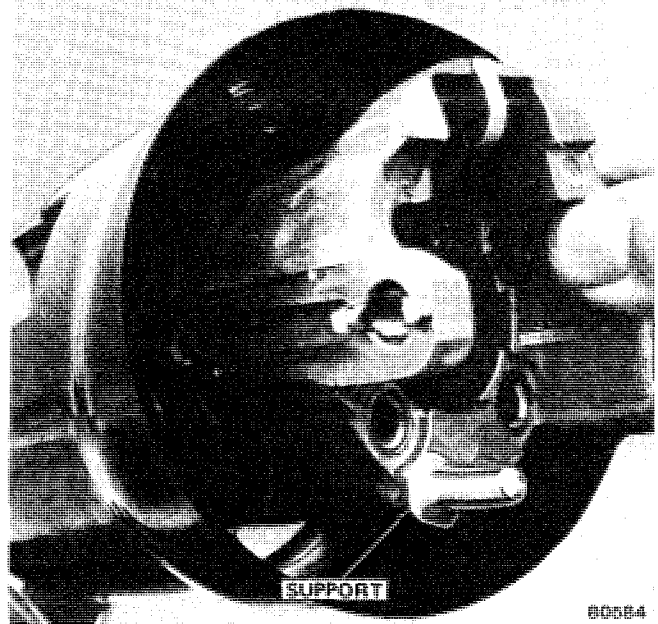

Fig. 2J-62 Support Installation
of rack must engage square block tooth of sector (fig. 2J-55).
(17) Install lock spring and spring retaining screw (fig. 2J-54). Tighten screw to 35-inch pounds torque.
(18) Align and install assembled housing on support (fig. 2J-52). Hold lock shoes in disengaged position to ease housing installation.
(19) Align pivot pin holes in housing and support and install pivot pins. Press housing downward when first installing pins to prevent damaging pin holes in support. When pins are started in both housing and support, seat pins fully using hammer and punch.
(20) Insert tilt lever in housing and place housing in full upward tilt position.
(21) Lubricate tilt guide and spring liberally with chassis grease and install tilt spring on guide.